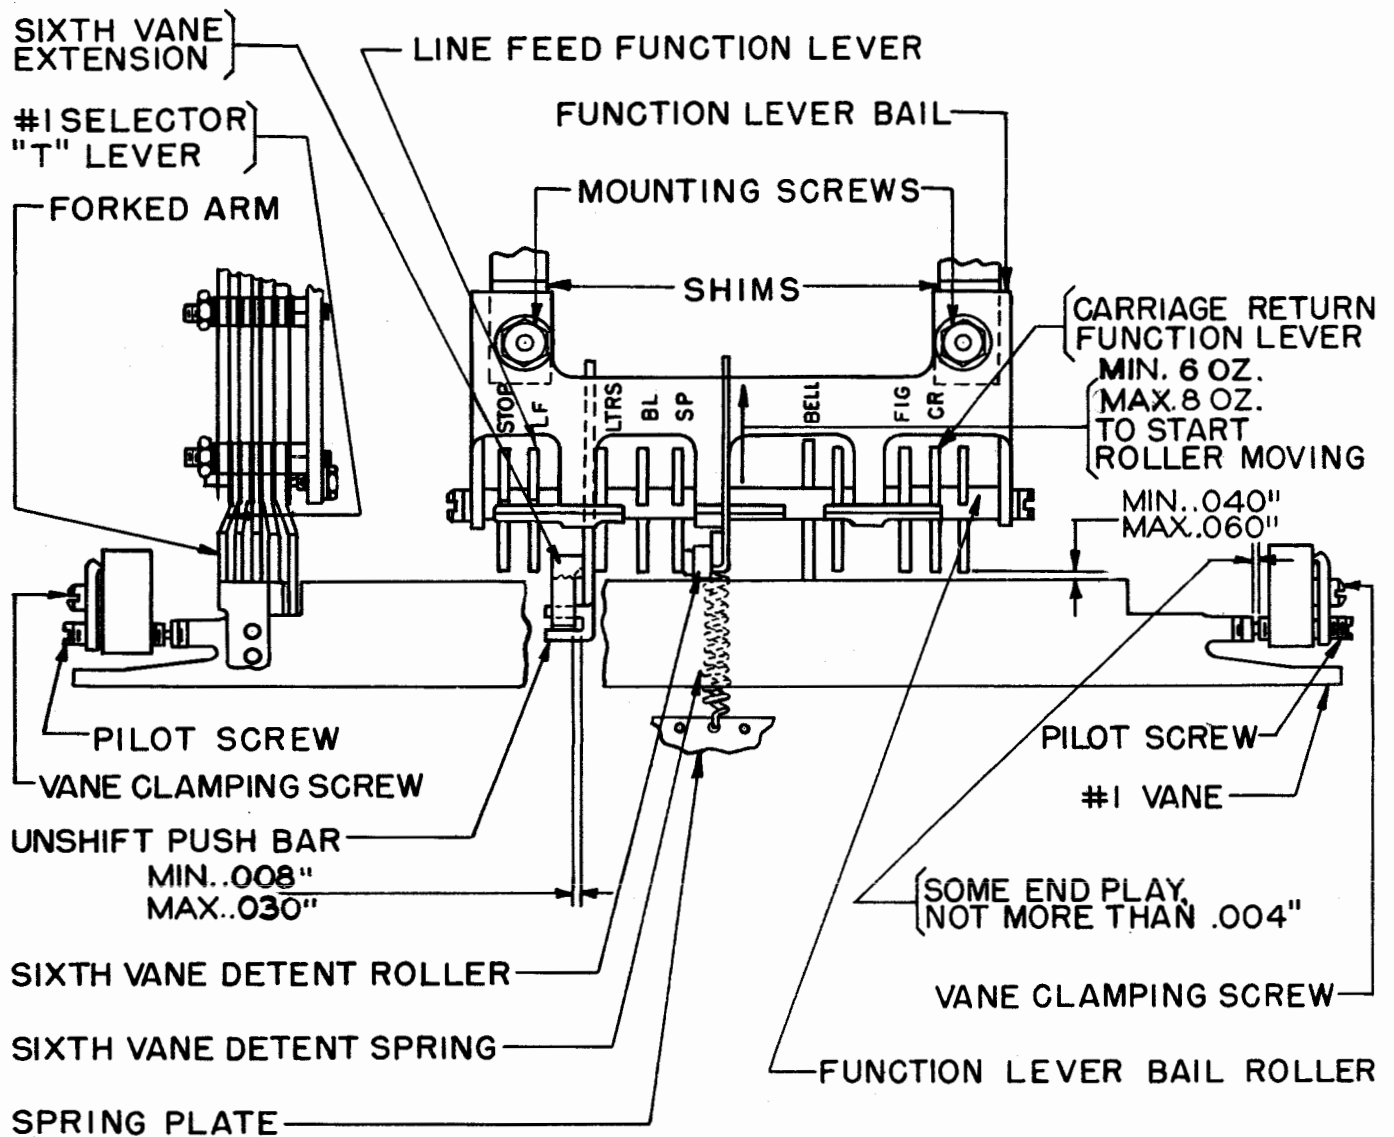

Figure 25
2.42 Function-lever Bail: The front edge of the function levers, except the universal function-lever (position 5), should clear the rear edge of the No.1 vane by minimum 0.040 inch, maximum 0.060 inch when the vane is held midway between the marking and spacing positions and the mainshaft is rotated until the printing bail is in its rearmost position. See Figure 25.
Note: If clearance on one-piece bail is re-adjusted, recheck 2.43 and 2.44. See Figures 25 and 26.
2.46 Selector Vanes should be free of bind and have endplay not to exceed 0.004 inch when the printing bail is in its extreme rear position and, except the sixth (see 2.47), should be positioned so that their forked arm lines up with the corresponding T lever, gauged by eye. See Figure 25.
vane should be held in its lowest position without exerting pressure to spring or bend the parts involved. The vane should be free of bind and have some endplay, not to exceed 0.004 inch, gauged by eye. There should be minimum 0.008 inch, maximum 0.030 inch clearance between the right edge of the vane extension and the right end of the slot in the LTRS pushbar. See Figures 25 and 27.